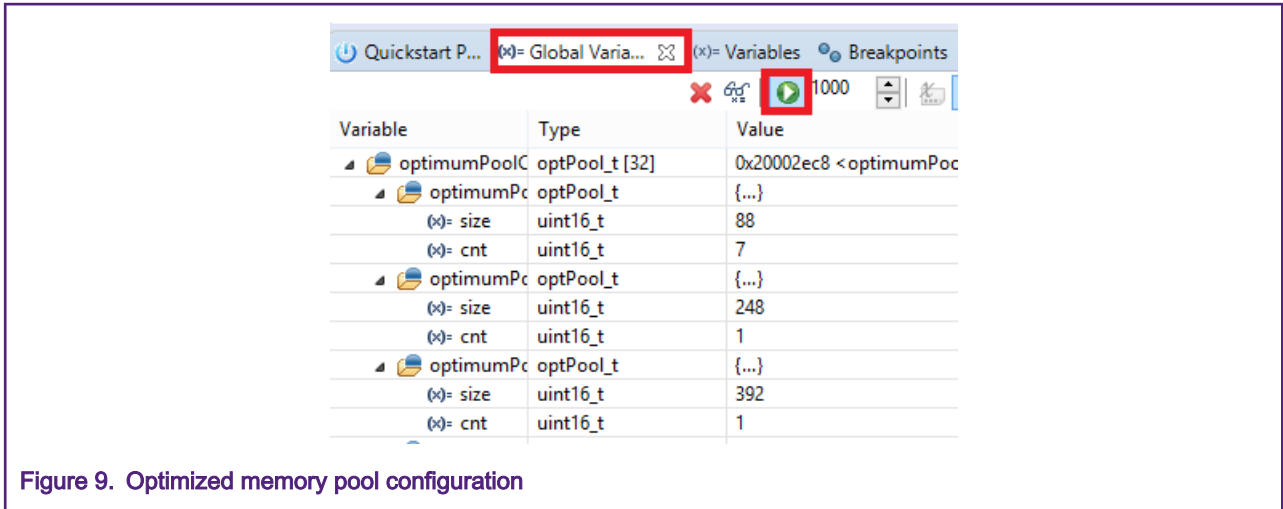

Figure 9. Optimized memory pool configuration
8. Based on Figure 9, it could be observed the optimized pool configuration for the HID device project is: